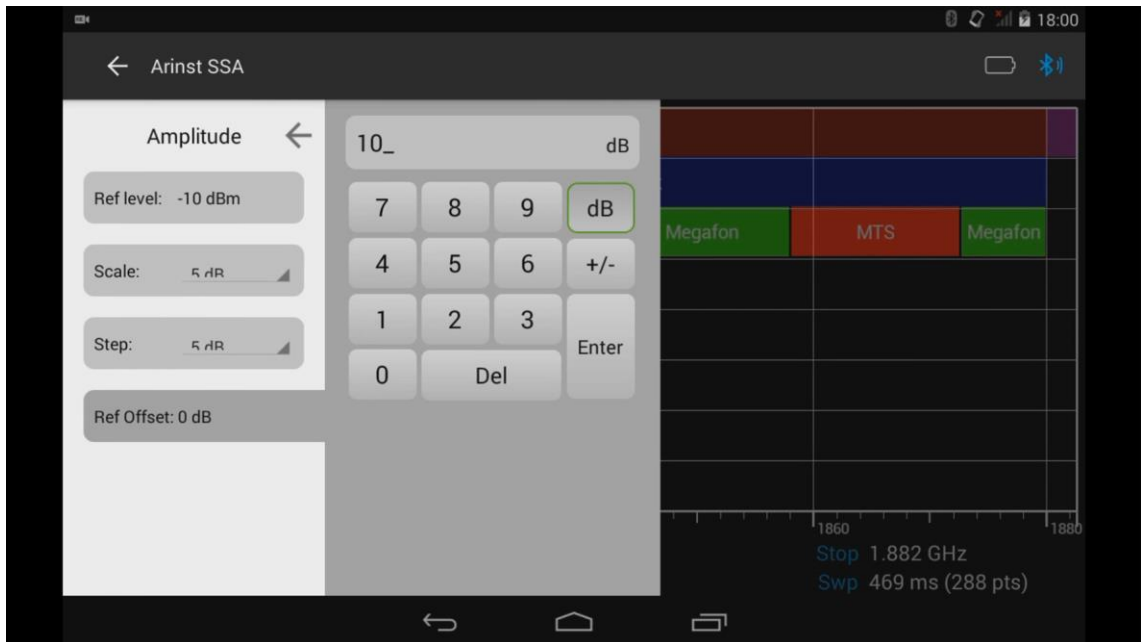

Figure 38 – Entering the amplitude scale offset value
8.6.5. When using an external attenuator or amplifier, there is a need to shift the amplitude scale for ease of display, shifted by the signal level. Enter the **Ref Offset** menu and enter the numerical value of the amplitude scale offset, as shown in figure 38. Enter the numeric value and press **Enter**. To delete erroneous or previously entered values, press **Del**. To refuse to enter a value, click on any free point on the screen of the tablet / smartphone.